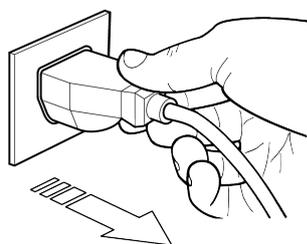
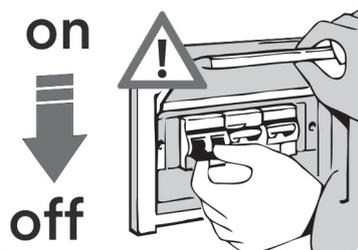

fig. 3
fig. 4
The equipment is not equipped on board with a disconnecter capable of simultaneously disconnecting power to two poles (phase and neutral) of the power supply. In fact, pressing the OFF button on the electronic control unit only stops the operation of the showcase, but does not switch off the power to the electrical components inside the showcase (lights, fans and terminal board). The disconnection can be done by means of a plug socket (fig.3), but the installer is strongly advised to place an omnipolar switch (fig.4) on the electrical connection upstream of the equipment to ensure the total disconnection of the Base Refrigerated from the power supply.
**In the event of a fire, always immediately switch off the main power line switch (fig. 4).**